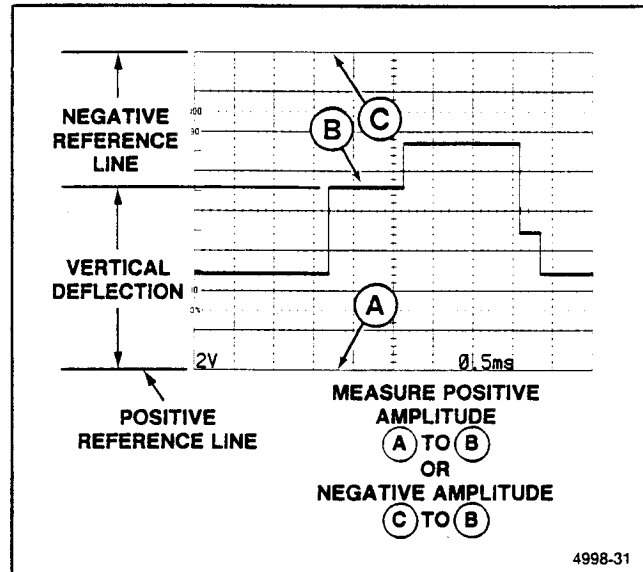

Figure 6-2. Ground referenced voltage measurement.
4. Set the AC-GND-DC switch to DC. Measure the divisions of vertical deflection between the reference line and the desired point on the waveform (see Figure 6-2).
EXAMPLE: The vertical distance measured is 4.6 divisions (see Figure 6-2). The waveform is above the refer-